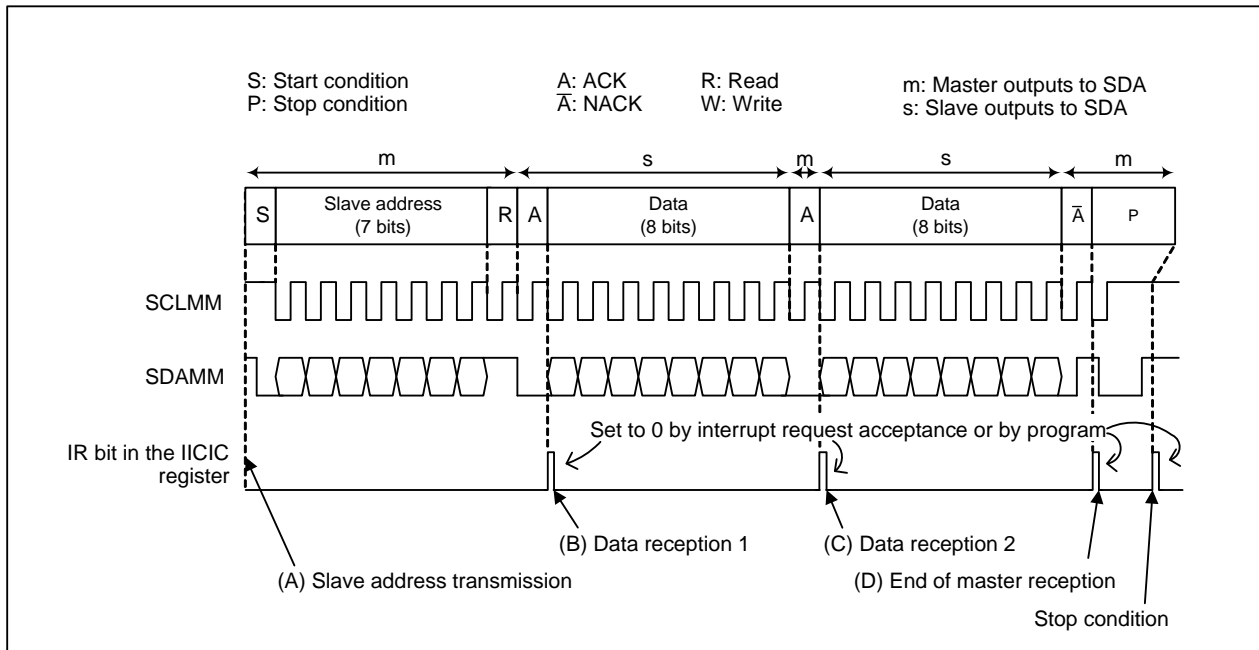

Figure 25.18 Example of Master Reception
The master reception is described in this section. The initial settings described in 25.3.10.1 "Initial Settings" are assumed to be completed. Figure 25.18 shows the operation example of master reception. The following programs (A) to (D) are executed at the (A) to (D) in Figure 25.18, respectively.